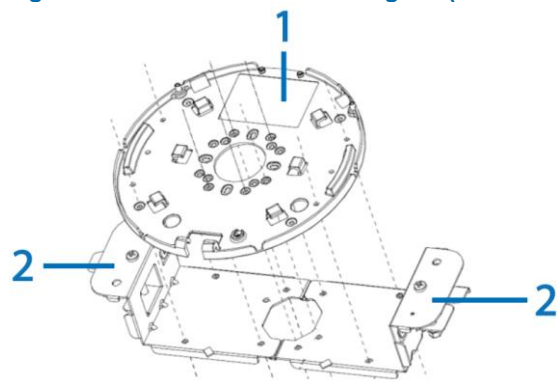
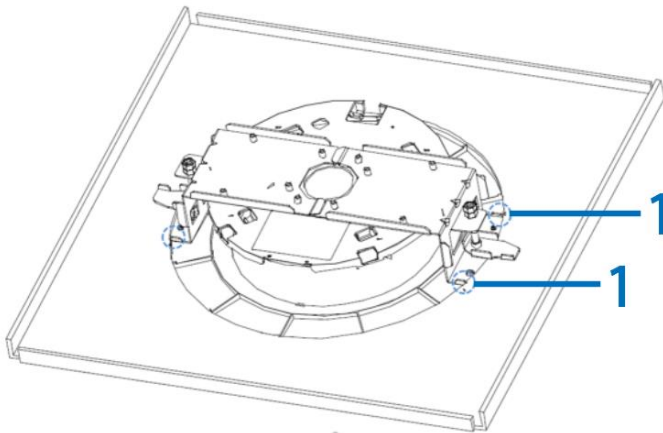

Figure 4
Figure 6
3. Align both recessed mount brackets (2) (Figure 4) together and place the mounting plate (1) (Figure 4) on top of both recessed mount brackets and align the eight holes on the mounting plate with the eight holes on the recessed mount brackets.
Note: The recess mount metal bracket's stops (2) (Figure 4) must rest against the edge of the tile's 400mm circle (1) (Figure 6), before the 'mounting clips' are secured. Then the camera assembly will be centralized in the recess mount tile.